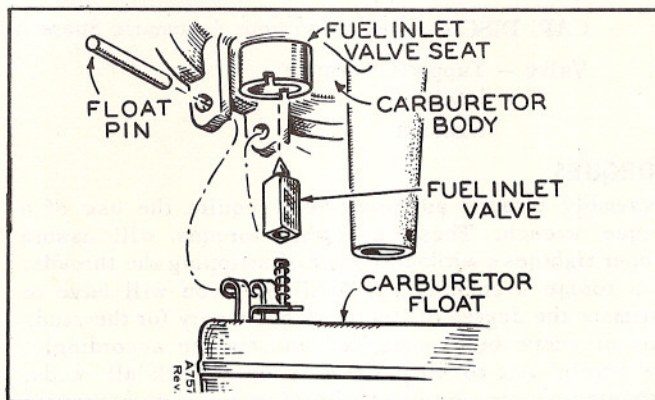

FIGURE 6. CARBURETOR DISASSEMBLY
6. Remove the float pin and float Fig. 6.